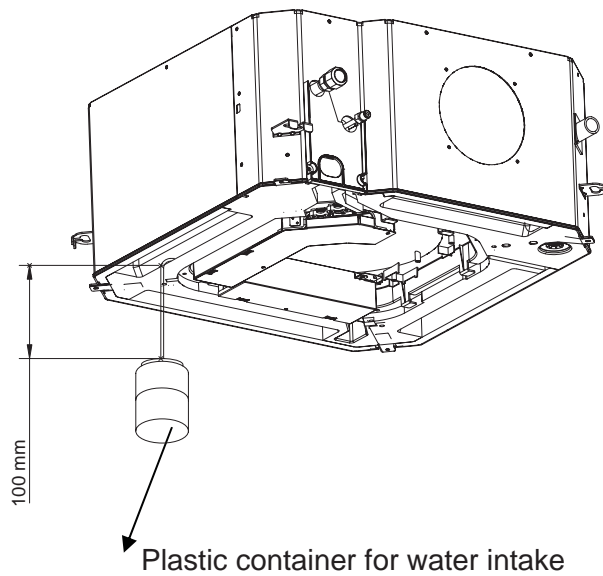

Fig.12
3. Slowly inject about 1,000 cc of water into the drain pan.(Fig.12)